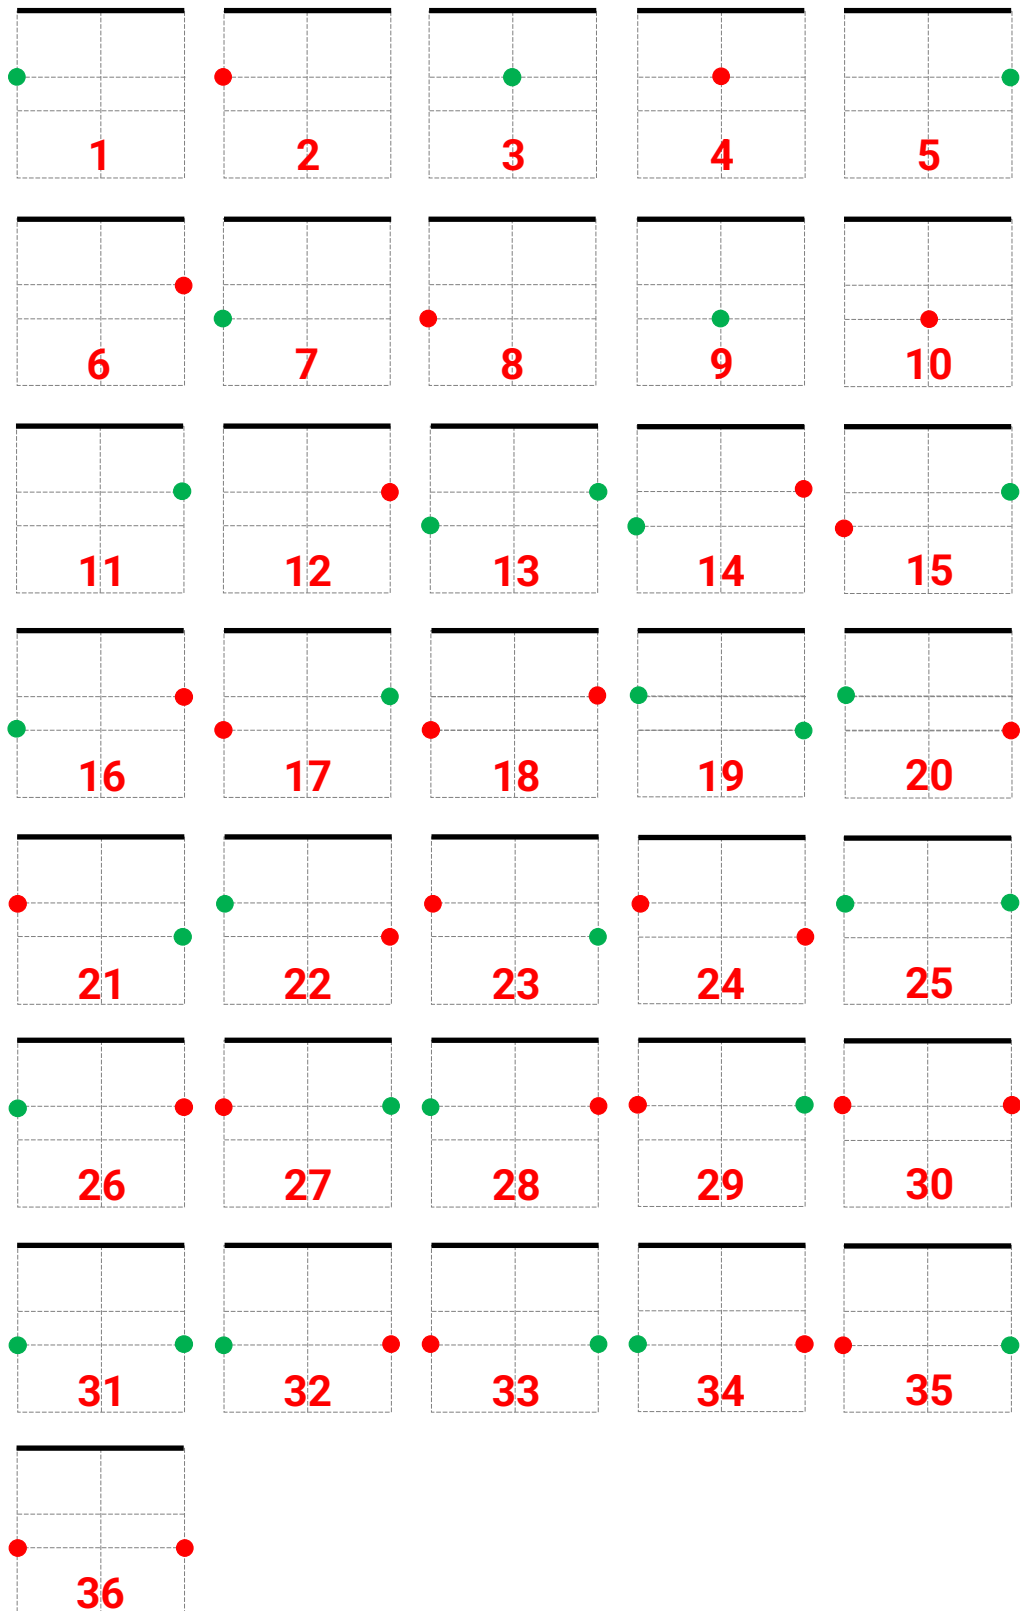

Figure 11. 36 cards with position of traffic signs within a section
3. Get 36 cards as on the figure 11 and remove the card 9 or 10 from the set depending on the colour of the sign chosen on the previous step: if the green sign was chosen, remove the 9th card; if the red sign was chosen, remove the 10th card. Put 35 cards into a non-transparent box or bag. Take one card from the box – it will determine locations of the traffic signs in the straightforward section next (considered clockwise) after the section determined in the previous step. The thick black line on the card means the inner border of the game field. The card must not be returned to the box. Take again a second card – it will determine locations of the traffic signs in the next straightforward section. Repeat these actions for the remaining straightforward sections.